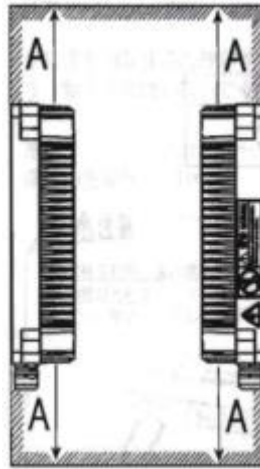

Figure 4 Installation safe space
- (1) The power terminal of the WCM-300 charger is fixed in the charging area;
- (2) The power receiving end (wireless receiver) of the WCM-300 charger is fixed on the robot;
- (3) There is no metal within 2cm around the wireless transmitter of WCM-300 receiving end and power end, as shown in Figure 4 below, $A \geq 2\text{cm}$;